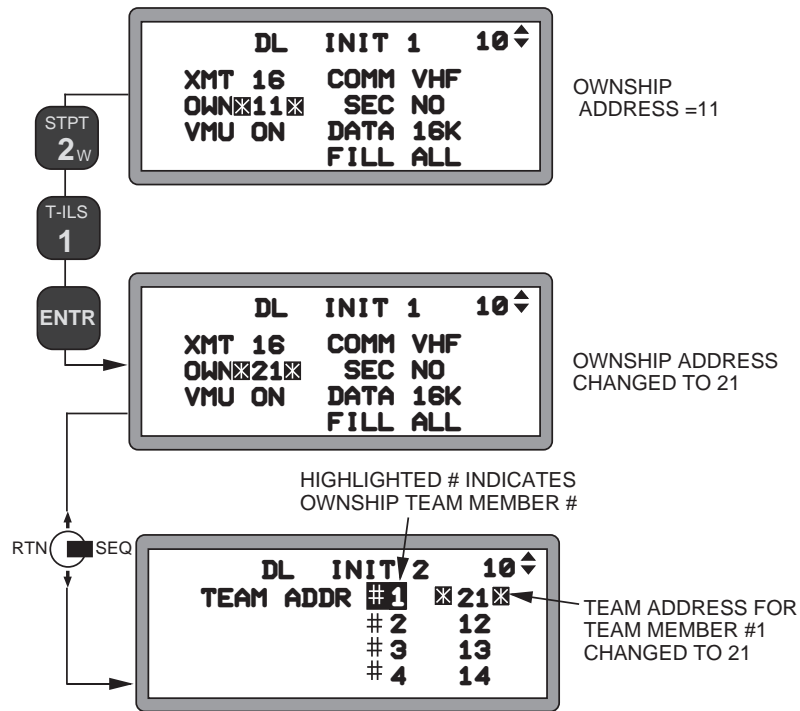

Figure 1-61 Changing Ownship Address
**Ownship Address Entry.** The pilot establishes the IDM intraflight position of his aircraft by entering the Ownship Address (OWN) on DL INIT 1 shown in Figure 1-61. The ownship address is used by the IDM to identify and process transmitted data link messages. For example, if the flight lead ownship address (OWN 21) sends an air-to-air data link message to his wingmen, ownship address of 21 will be used by the receiving IDMs in the intraflight loop to identify the flight leader's position symbol and bugged target. These symbols would be shown on the wingman's HSD with the number "1" above them. Conversely, messages received by the flight lead will be processed by his IDM and displayed on his HSD if they are addressed to 21.
The ownship address is a one or two-digit number from 1 to 99. Entries ending in 0, i.e., 10, 20, 30, etc. are invalid. The pilot enters the ownship address by entering the desired one or two digit number using the keypad on the ICP and pressing ENTR (See Figure 1-61). NOTE: Ownship addresses 1 through 9 are not recommended for intraflight datalink operations because it puts one on the universal net instead of the flight's net. Normally, the ownship address is DTC loaded along with the team addresses of the participating flight members. For example, a DTC load for the flight lead of a 4-ship flight consists of team addresses of 11, 12, 13, and 14 for flight members 1 through 4. The ownship address established on the DL INIT 1 page is interrelated to the ownship team address indication on the DL INIT 2 page. When the pilot changes the ownship address using the DL INIT 1 page, the associated team address that corresponds to his team member (flight position) number on the DL INIT 2 page is also changed (Figure 1-61). If the pilot wants to change his position in the flight and keep the same ownship address, he can enter the ownship address oppo-